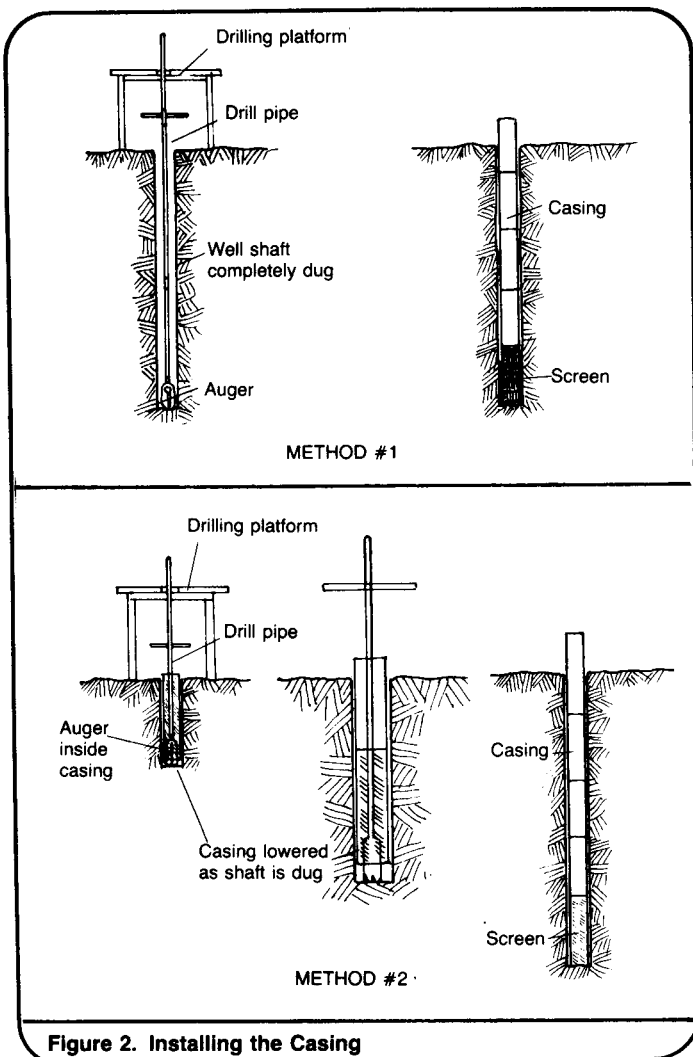

Figure 2. Installing the Casing
2. Design drawing of the method of installing the casing similar to Figure 2.